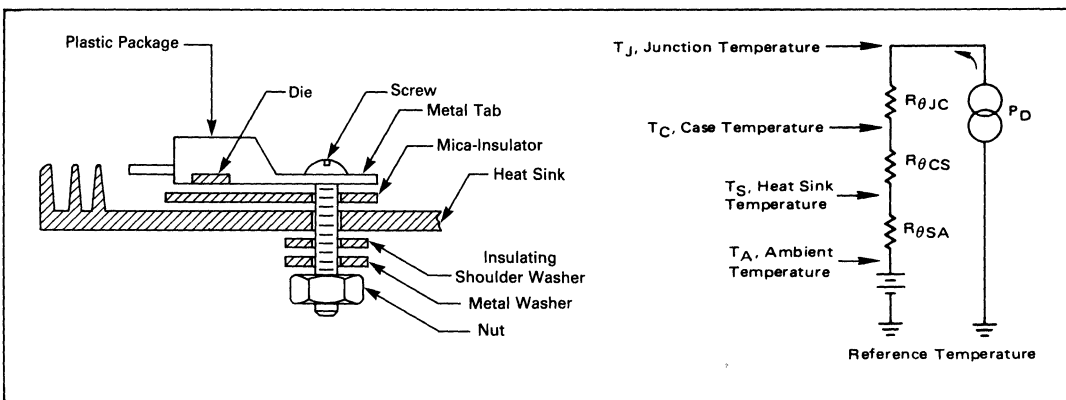

FIGURE A1 — BASIC THERMAL RESISTANCE MODEL SHOWING THERMAL TO ELECTRICAL ANALOGY FOR A SEMICONDUCTOR
An analogy between Equation (2) and Ohm's Law is often made to form models of heat flow. Note that ΔT could be thought of as a voltage; thermal resistance corresponds to electrical resistance (R); and, power (q) is analogous to current (I). This gives rise to a basic thermal resistance model for a semiconductor as indicated by Figure A1.